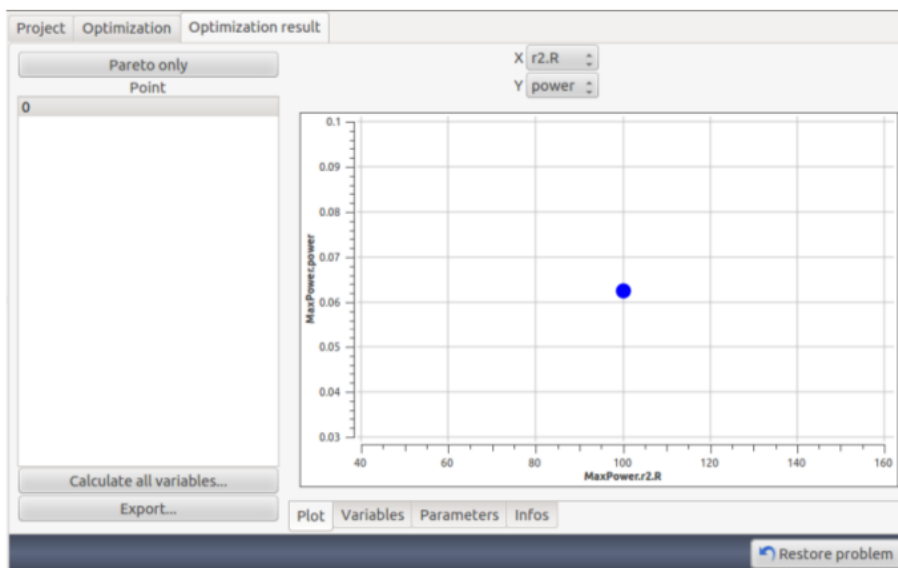

Figure 11.11: Optimised value of resistance for maximum power
- Depending on the type of algorithm, the time for optimisation varies. Optimised result is graphically displayed as shown in Fig. 11.11.